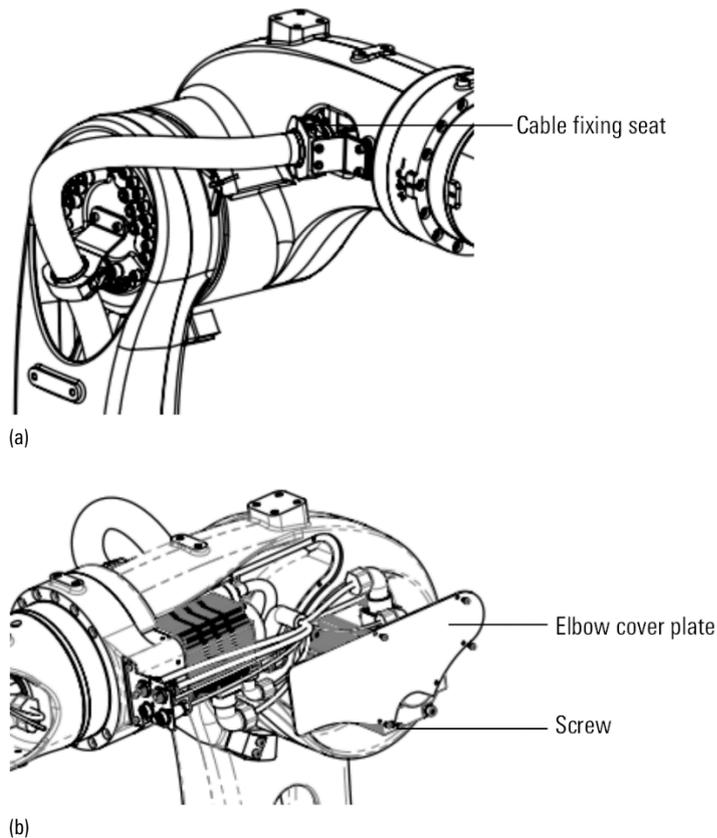

Figure 12-4 Internal cable at elbow
- Step1. Remove the elbow cable fixing plate, as shown in Figure 12-4.